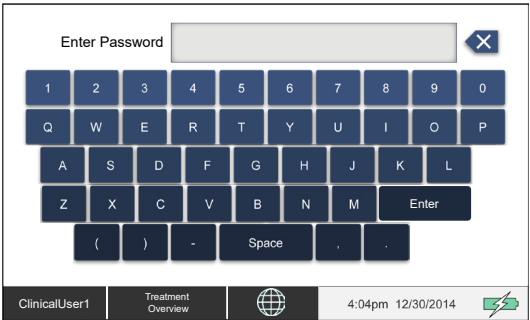

Figure 14 Enter Password Screen
6. After a successful Self-Test, an audible sound will play from the Base Station and Handset. The **Enter Password** screen is shown on the Base Station (see Figure 14) and the Handset screen will be blank.